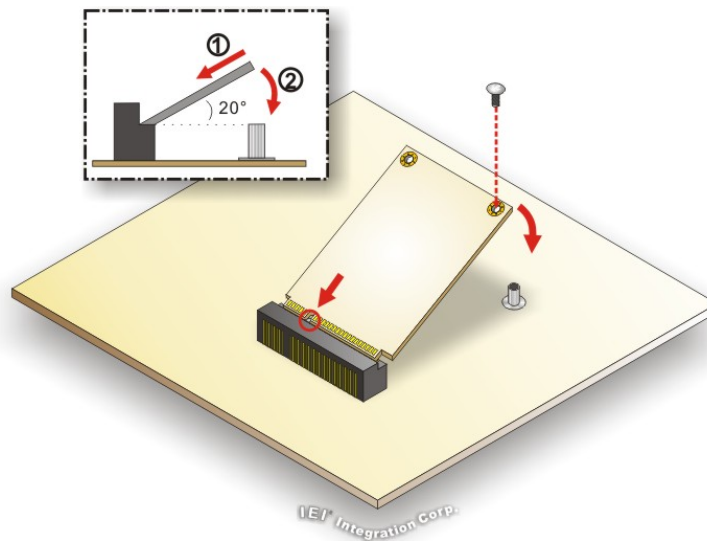

Figure 3-7: mSATA Module Installation
- Step 4:** Secure the mSATA module with the retention screw. Push the other end of the mSATA module down and secure the module with the previously removed retention screw (Figure 3-7).